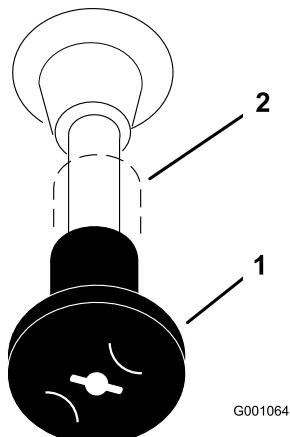

**Figure 12**
3. Move the PTO (power take off) switch to the Off position (Figure 12).
1. Push the PTO to the off position (Figure 12).